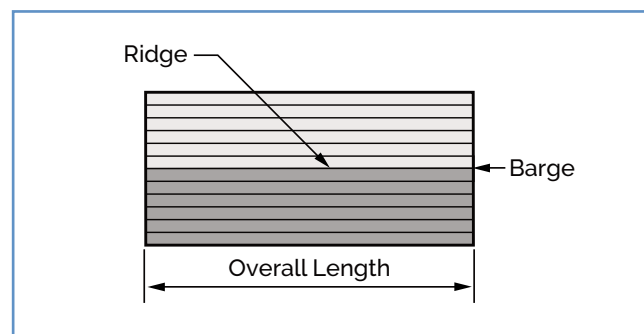

Figure 2.2.2
- II. Determine the overall length of the roof (**Figure 2.2.2**) and calculate the number of tiles using formula **2** or from **Table 2.2.1**.